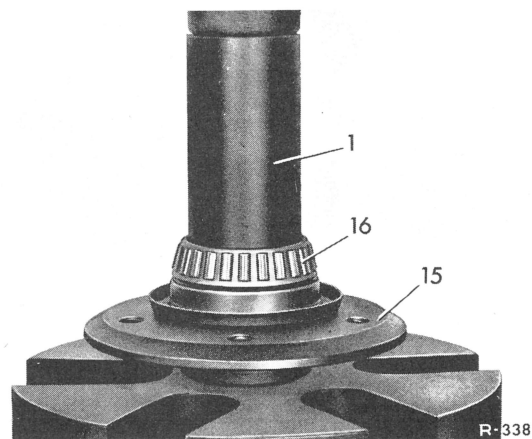

Fig. 14
Tubing for tapered roller bearing inner race	Self-made acc. to Fig. 14
**13** Press bearing inner race of outer tapered roller bearing (16) onto rear axle shaft flange (15) with a suitable tube (1) (Fig. 14).